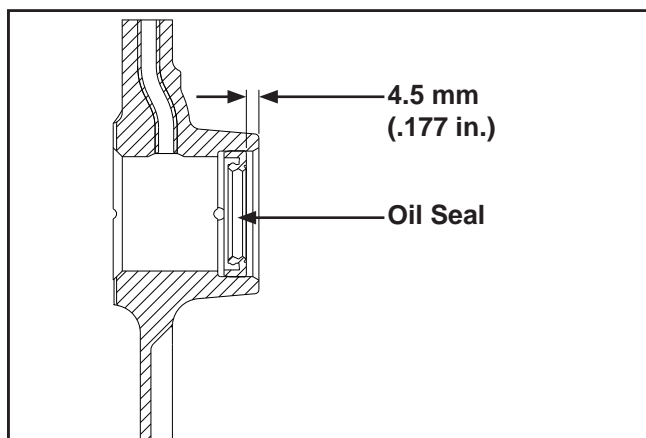

Figure 10-2. Installing Oil Seal in Crankcase.
3. Drive the oil seal into the crankcase using a seal driver. Make sure the oil seal is installed straight and true in the bore to the depth shown in Figure 10-2.